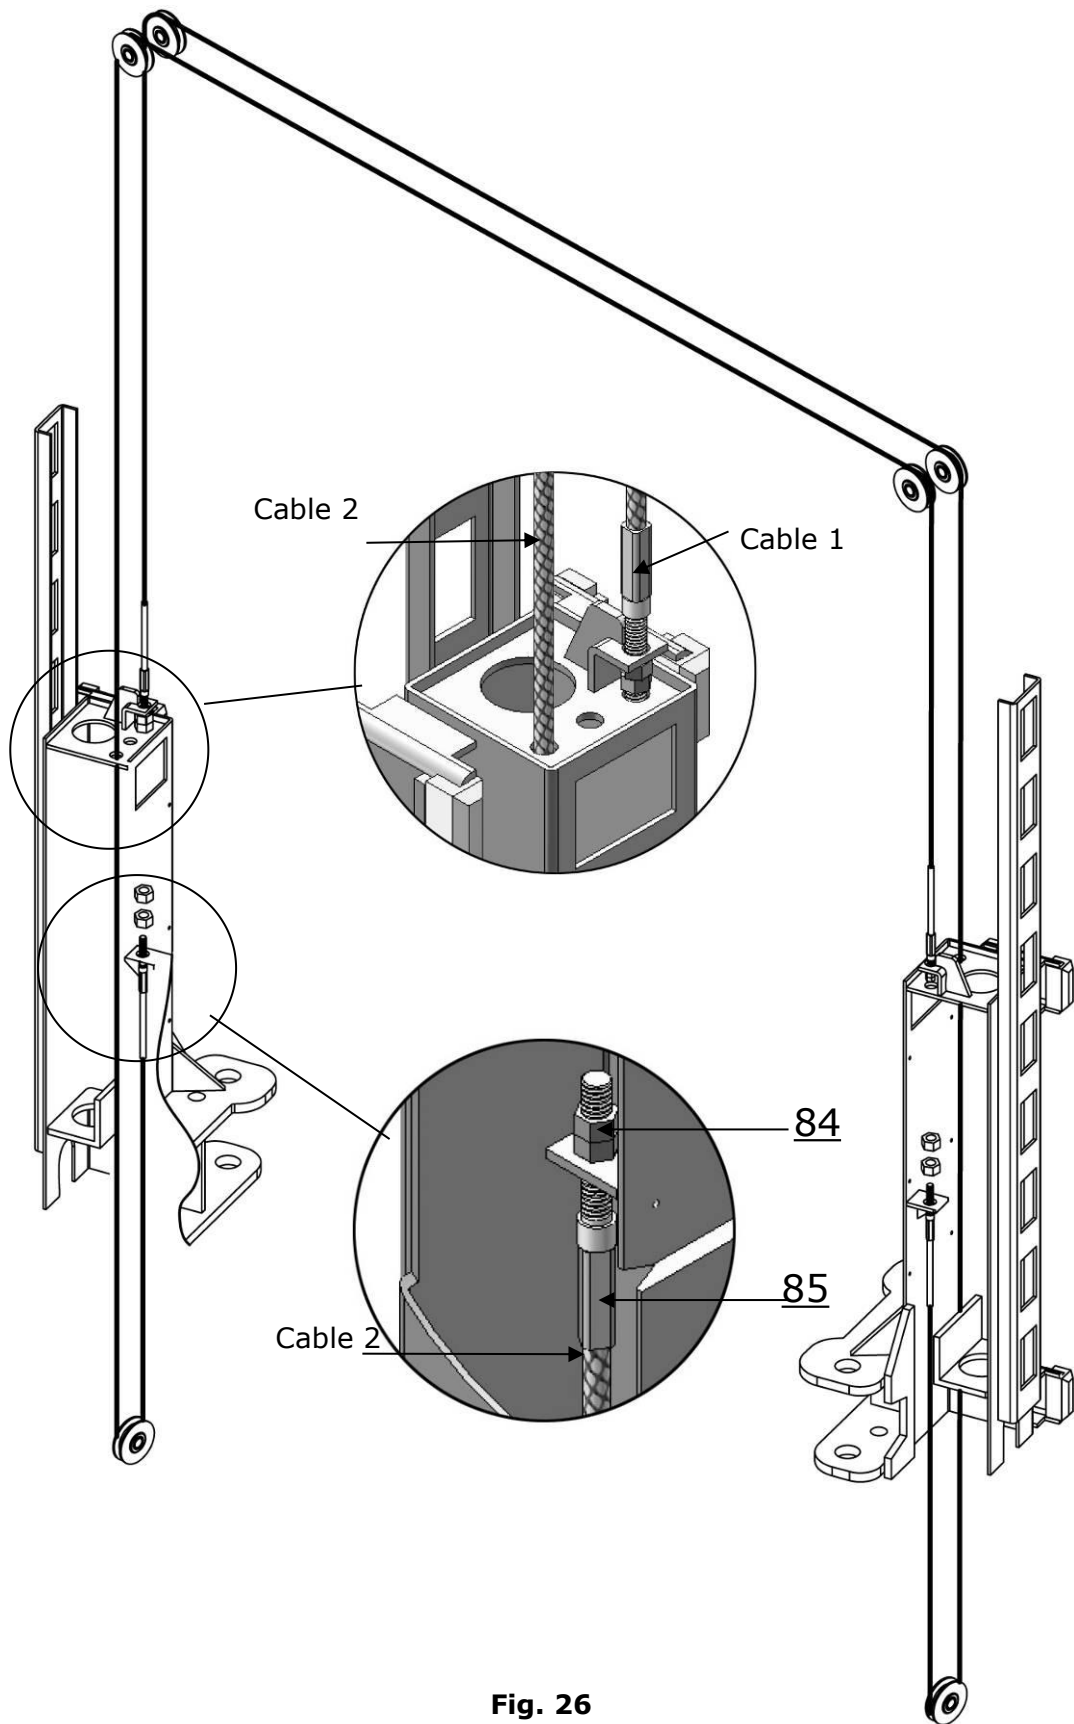

Fig. 26
2.2 Connecting cable for high setting (See Fig. 26).